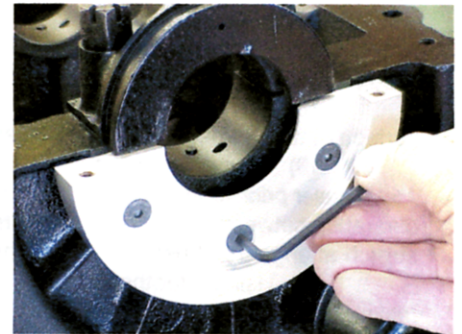

FIGURE 1
6) After smearing a thin coating of the provided Permatex Ultra Black sealer on the block mating surface, install the upper half of the Seal Retainer to the block, using the three 8mm countersunk screws supplied. Tighten these three screws securely. (REFER TO FIGURE 1) (The semicircular gasket is not used).